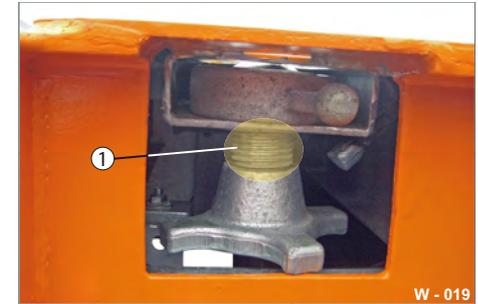

Fig. 23 Lubricating thread
- ▶ Lubricate the thread (Fig. 23/1) with machine grease.